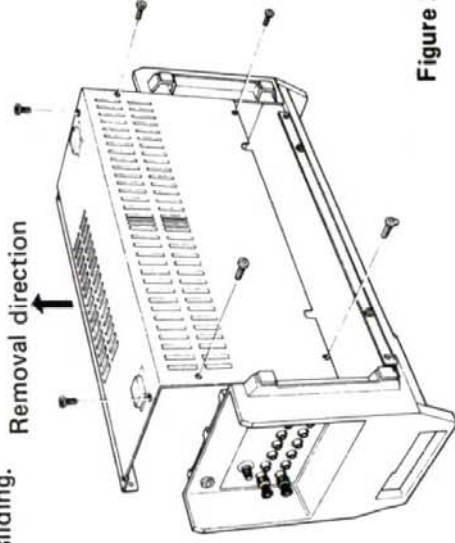

Figure 2.
- 2) Remove the screws attached to the back cover. (Refer to Fig. 2).